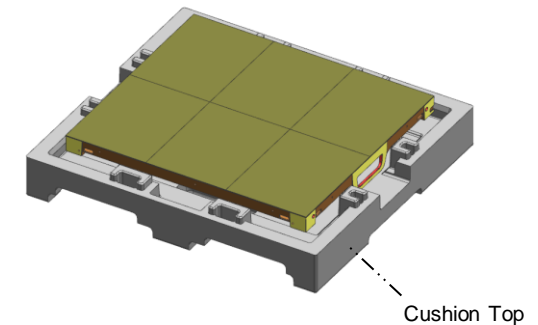

Fig.7 Cabinet Storage
⑦ Put the Cabinet on the Cushion Top so that the LED screen will head upwards. (Fig.7)